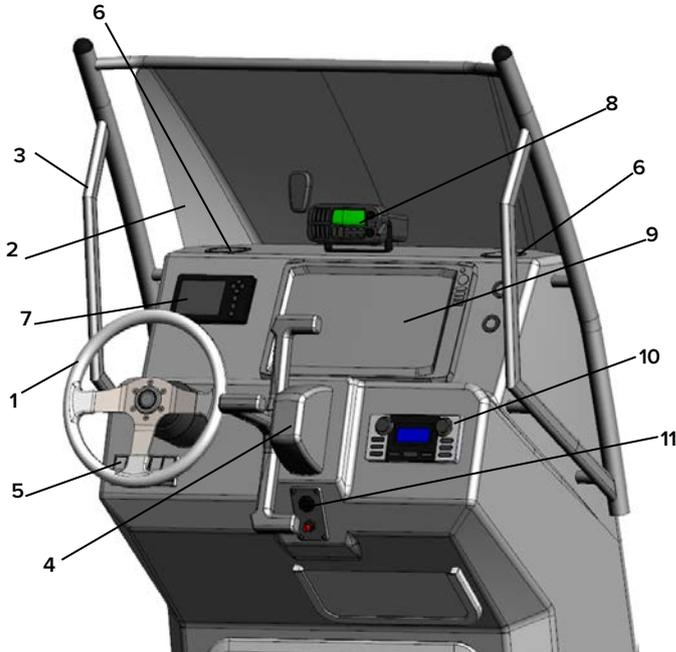

Fig. 65. Steering console components (see the list on the next page).
*Steering console components (see fig. 65 on the previous page):*